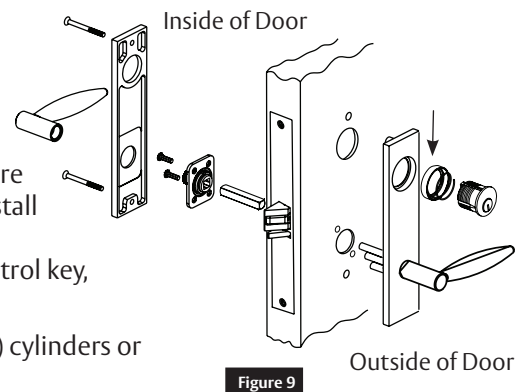

Figure 9
- Cylinder collar(s) are required for functions with two (2) cylinders or cylinders longer than # 41 (1-1/8"). (Figure 9)